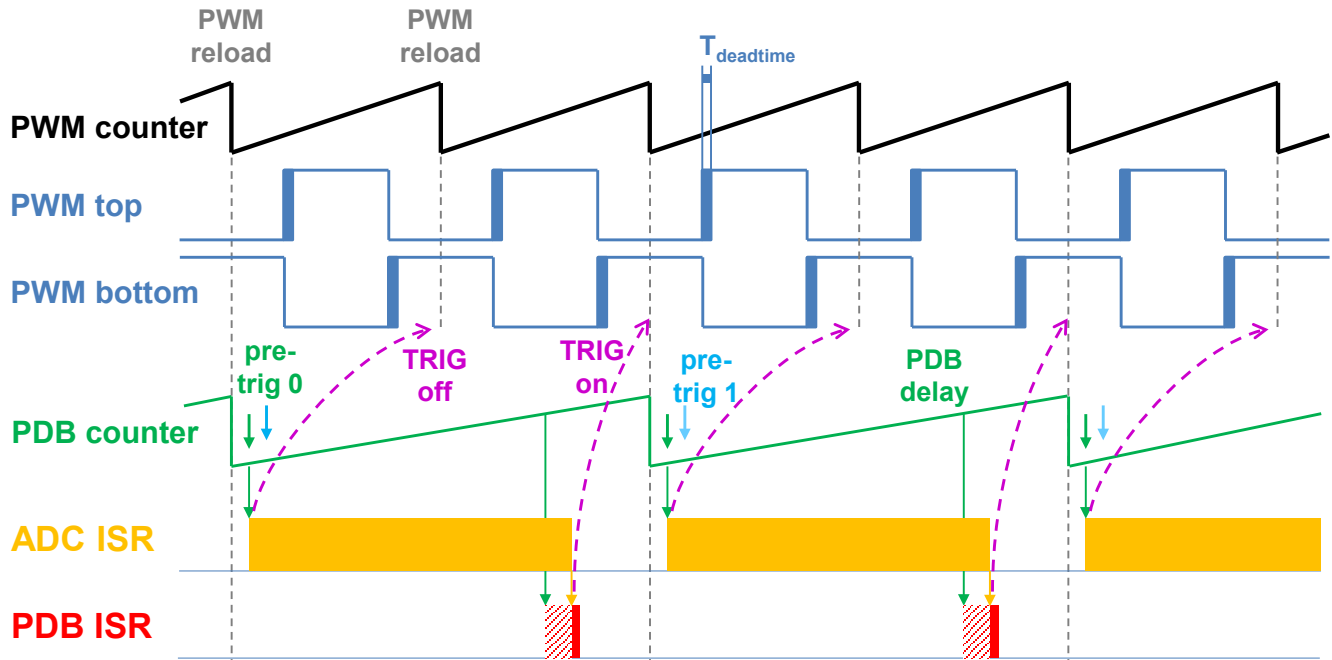

Figure 4. Hardware timing and synchronization on KV11Z and KV10Z
- The PDB Delay interrupt is enabled. This interrupt is generated when the PDB_IDLY is reached. This interrupt enables the FTM_TRIG (see Figure 4).